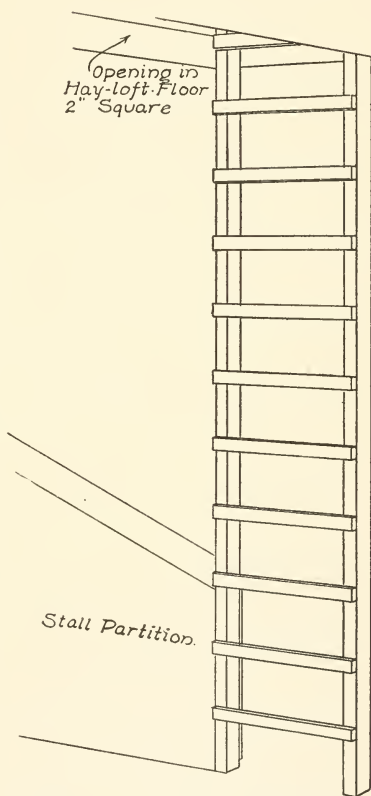

FIG. 242. — Ladder to Hay-Loft.
Figure 242 shows the construction of
**A Ladder** to the hay-loft. This is made out of two sticks twelve inches long, with strips of cigar-boxes two inches long glued to them half an inch apart, as shown in the drawing. Cut away a section of the hay-loft floor two inches square and stick the end of the ladder up through the opening, fastening the uprights to the edge of the floor (see Fig. 242).